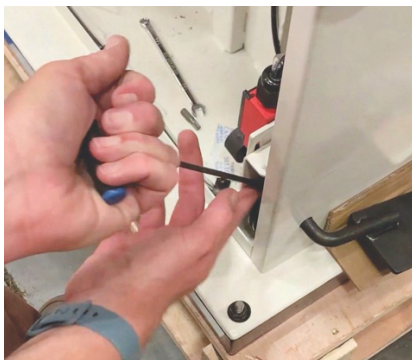

Figure 5-31
2. Using a 4mm hex wrench, loosen the set screw (see Figure 5-31).